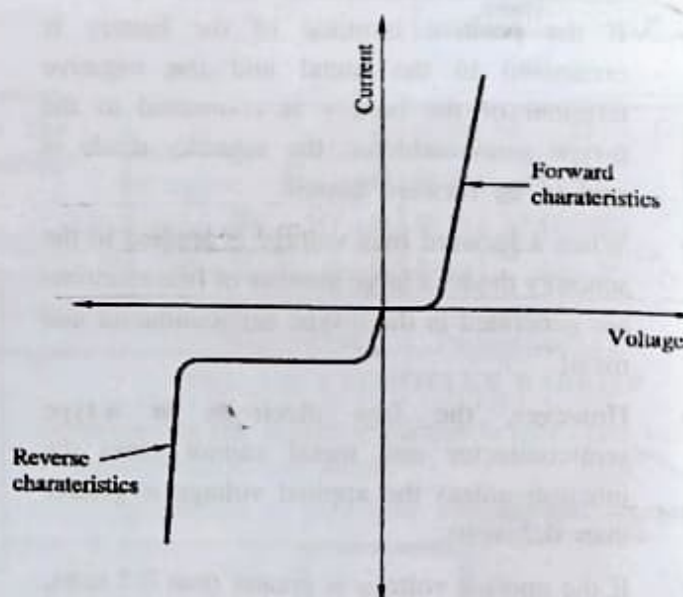

FIG. 2.32 : V-I CHARACTERISTICS OF SCHOTTKY DIODE
- The V-I (Voltage-Current) characteristics of schottky diode is shown in the below fig. 2.32.